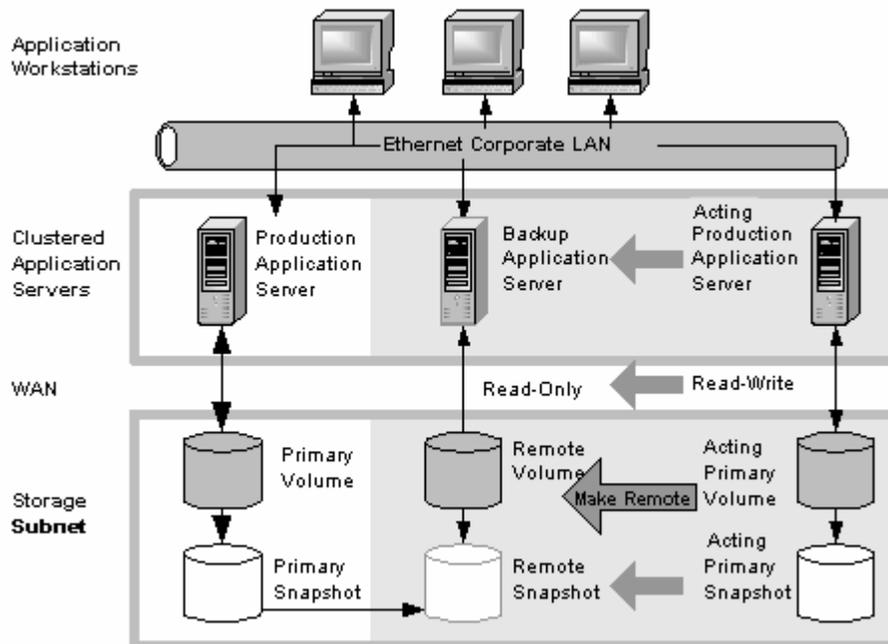

Figure 12 High availability configuration during failback
- Resume operations using the original production server, and then return the backup volumes to their original remote status, as illustrated in Figure 12 on page 46. This requires migration of data that was written to the backup volumes since the failure back onto the production volumes.